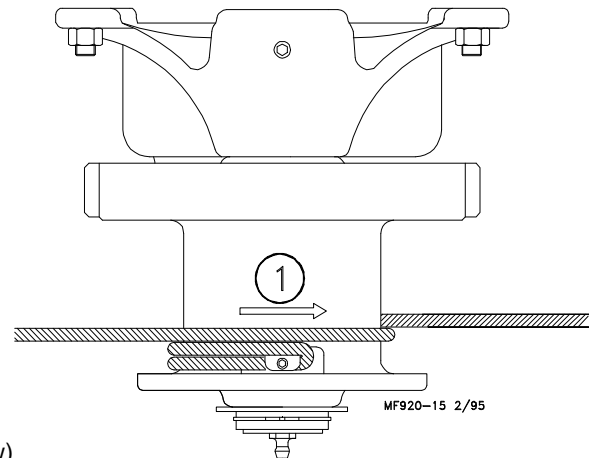

Figure 8. Cable Wrapping (End View)
5. Turn the winch drum one full revolution. Guide the cable against the flange at the bottom of the winch drum. The cable must not wrap over itself on the drum, but should be wrapped as close as possible to each previous wrap. See Figure 8.